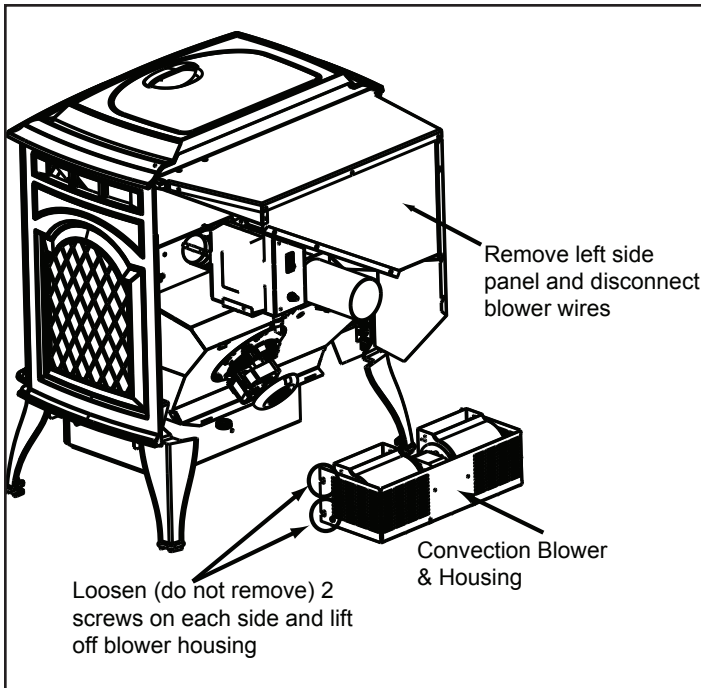

Figure 22.1
- There are 2 screws on each side of the housing. Loosen all 4 screws, but do not remove them. Lift the blower housing up slightly and slide towards you. **Figure 22.1 on page 22.**